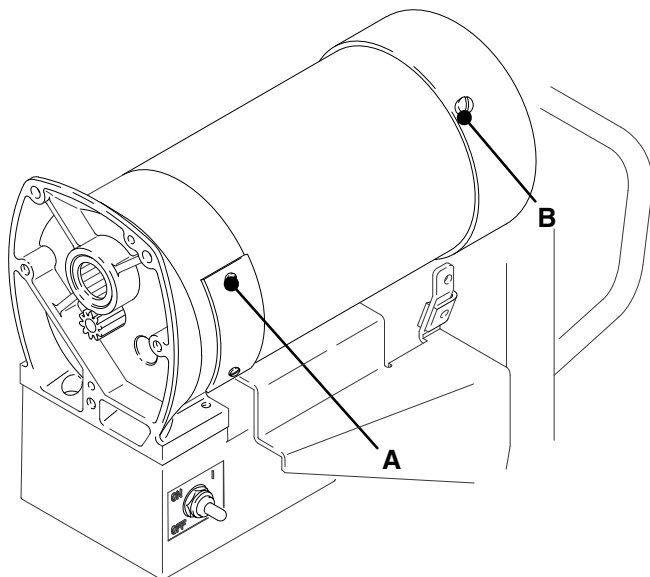

Fig. 12 02991
Remove the motor brush inspection covers (A). See Fig. 12.
Remove the fan cover (B). See Fig. 12.